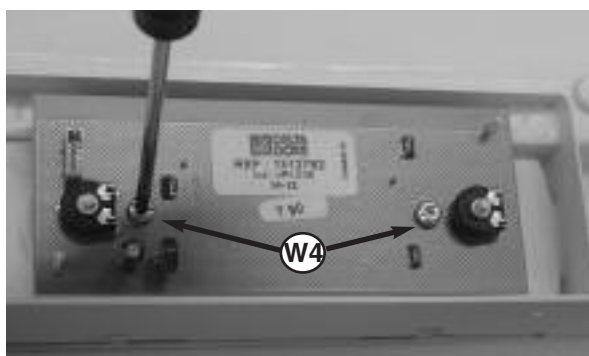

Fig. 107
6. To remove the display PCB, remove the two screw **W3** and lift the PCB out (see *Fig. 107*);